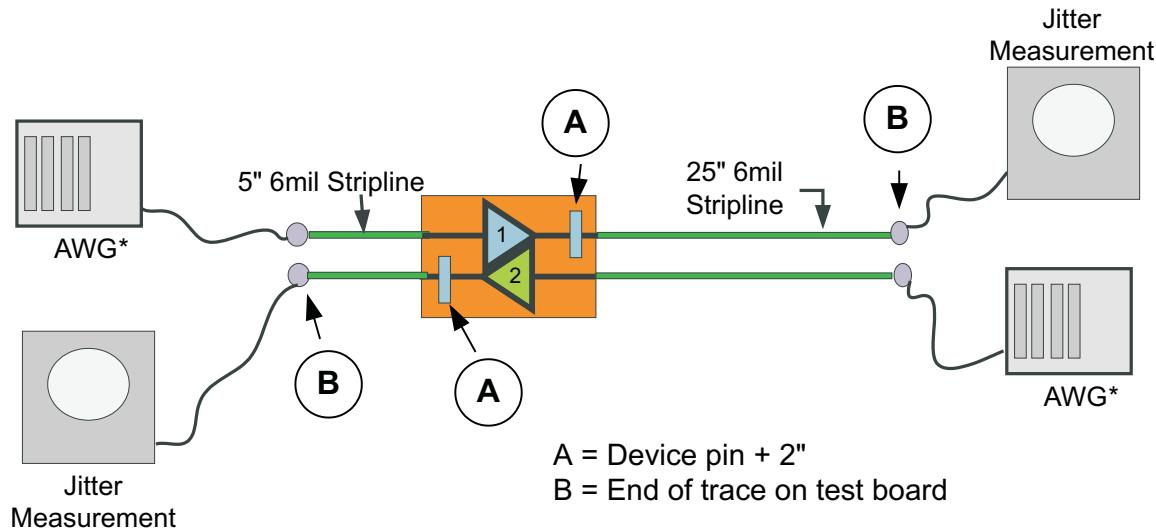

Figure 10. Jitter Measurement Setup
(1) Includes RJ at 10⁻¹²
(2) Refer to Figure 10 with ± K28.5 pattern at 5Gbps, -3.5dB DE from source AWG .